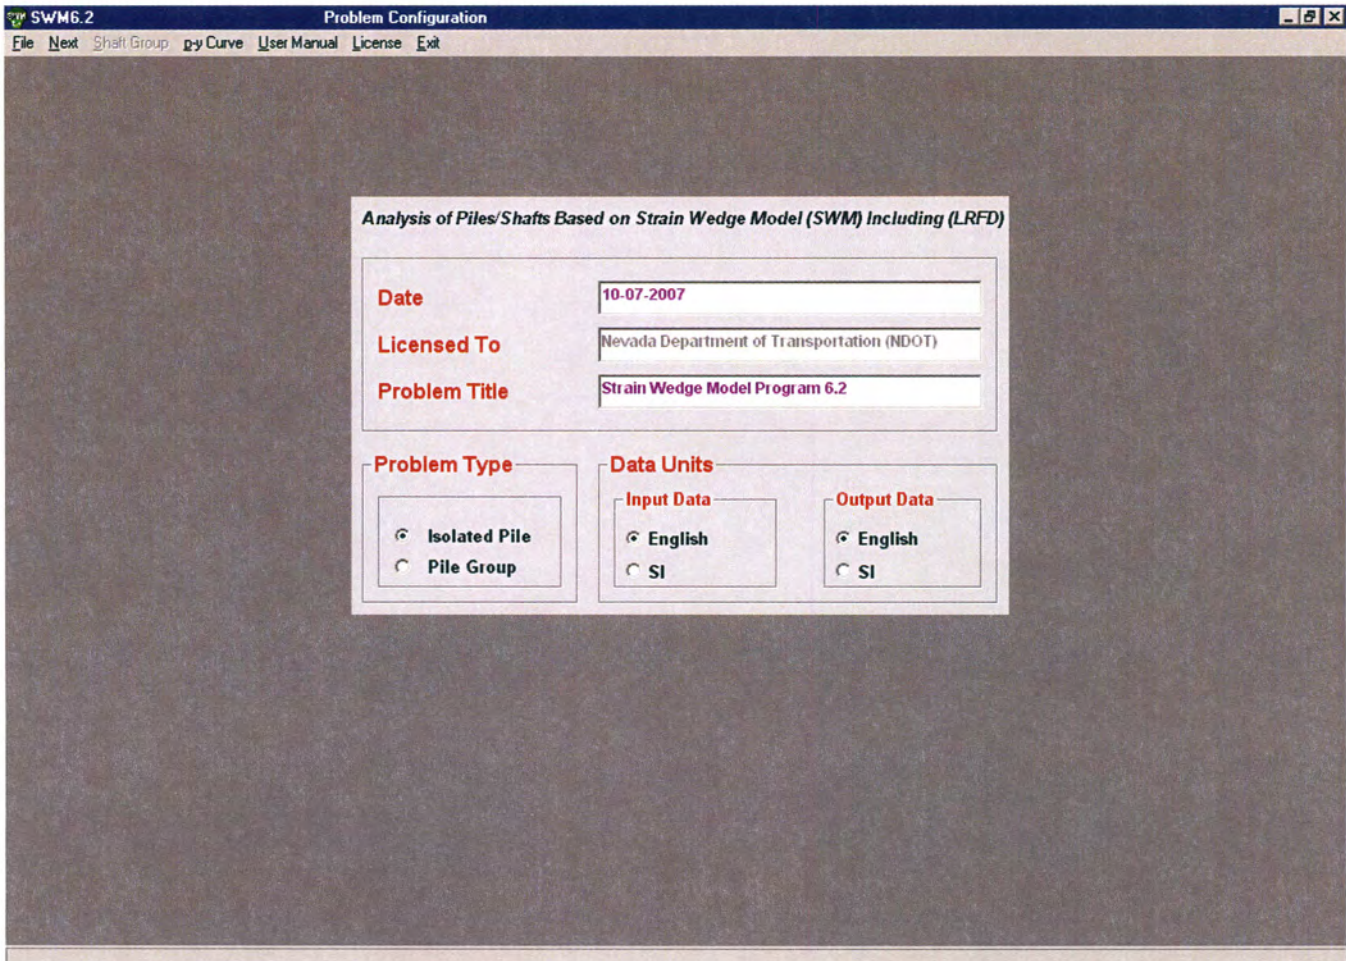

Fig. 1 Window #1 (Problem Configuration)
- **Window # 1 (Problem Configuration)** [Fig. 1]